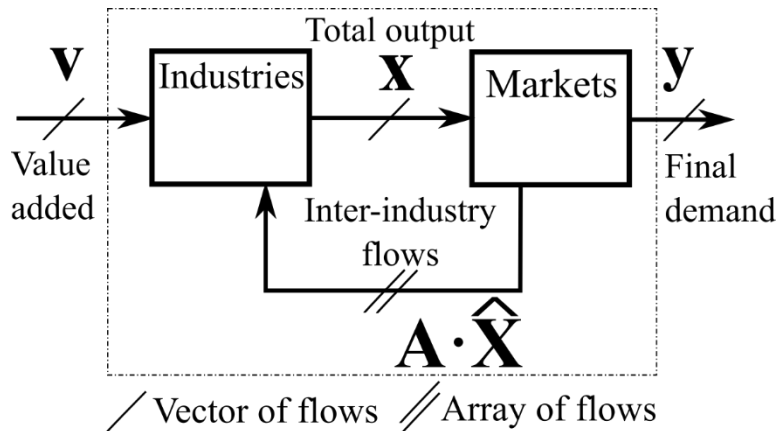

Figure 1: System structure of an IO model.
Input-output analysis is based on a system description including both: transformation activities (industries, organisms) and distribution processes (markets). It contains four system variables: entry vector  $\mathbf{v}$  ('value added'), total output vector  $\mathbf{x}$ , final demand vector  $\mathbf{y}$ , and matrix of intermediate  $\mathbf{Z}$  (or  $\mathbf{A} \cdot \hat{\mathbf{X}}$ ) (Fig. 1).
1. Make sure that the four system descriptions of the IO-model as shown in figure 1 are equivalent i.e. every description can be transformed into another without loss of information. How?